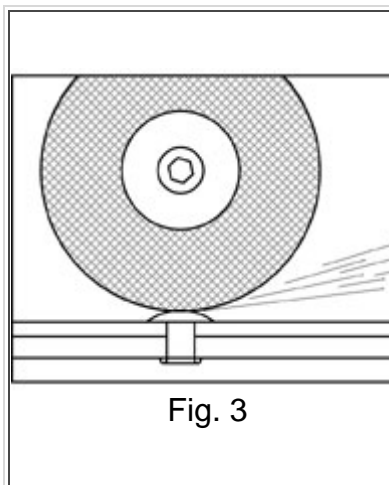

Fig. 3
2. Grind the head of the middle rivet until you can see through the rivet (Fig. 3). **CAUTION:** Be sure not to grind down too far and cause the grinder to come into contact with the plastic plate.